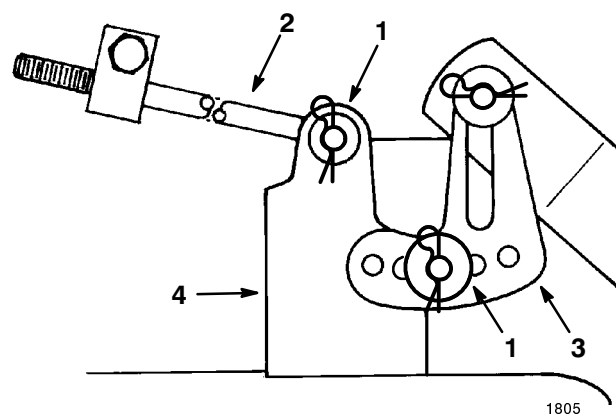

Figure 43
10. Remove the hairpin cotter and washer from the end of the long rod (Fig. 43). Slide the rod out of the mower mount. Repeat this step on the opposite side of the mower.
11. Remove the hairpin cotter and washer at the mower leveling bracket (Fig. 43). Slide the bracket off of the mounting pin. Install the washer and hairpin cotter for storage.